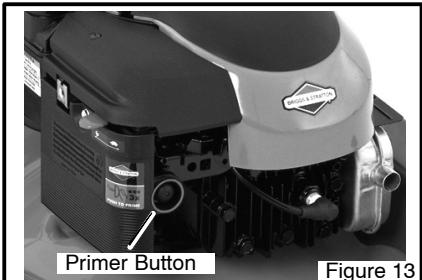

Figure 13
6. Some models have a **primer button** on the front or side of the engine (Figure 13). Every time you push the **primer button**, wait two seconds. For the number of times required to push the **primer button**, see the engine manufacturer's instructions.